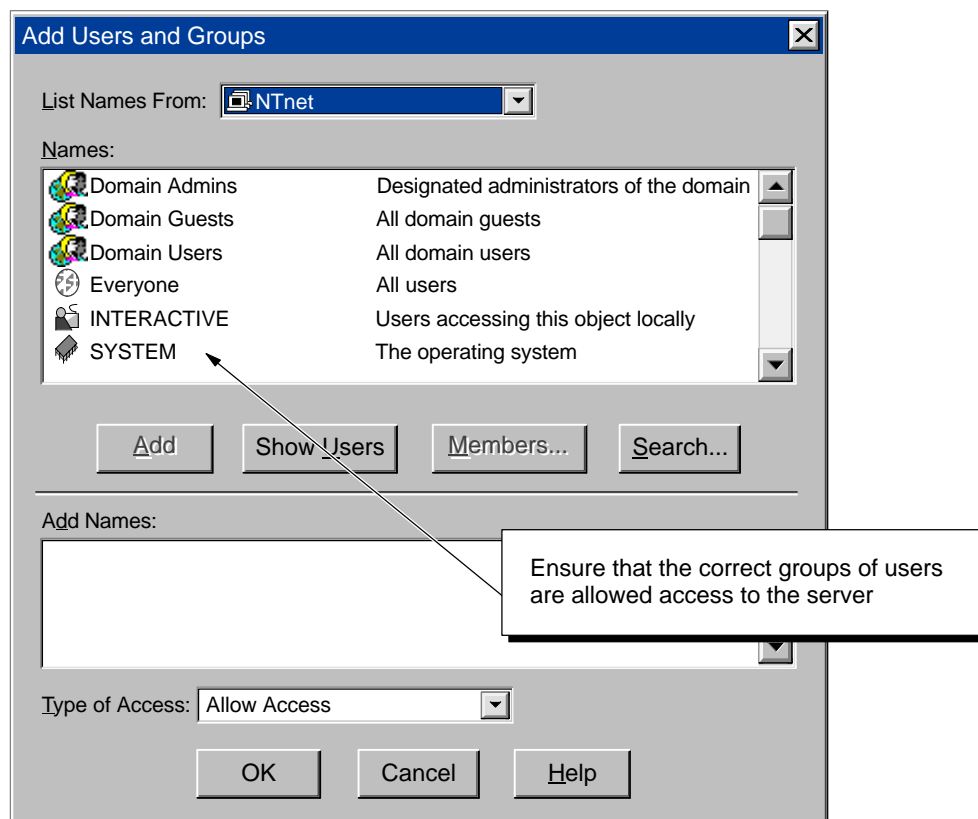

Figure D-10 Changing the Access Permissions for Users or Groups
3. If “Everyone” (or the appropriate subset of users) is not shown in the Permissions dialog Name list, click on the Add button to display the Add Users or Groups dialog box. See Figure D-10.
4. Use the Add Users and Groups dialog (Figure D-10) to add users/groups as required.